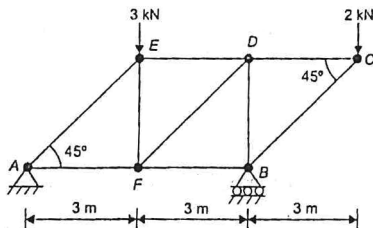

Figure Q.9.
9. For the truss shown in figure Q.9. Find the reactions at the two supports.